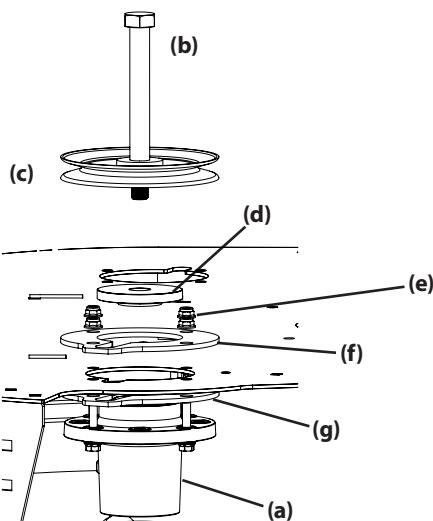

Figure 39
6. Remove the hex bolt (b), pulley (c) and spacer (d) from the spindle assembly (a). See Figure 39.
7. Remove the four flange lock nuts securing the (e) upper support plate (f), lower support plate (g) and spindle assembly (a) to the deck. See Figure 39.
12. Reverse the process to install the spindle assembly. When installing the new spindle assembly be sure to install the hardware exactly as shown in Figure 39 and Figure 39.. Torque the hex flange bolts to 250 ft-lbs. (338.95 N·m) and the flange lock nuts to 21-32 ft-lbs (28.47-43.39 N·m).